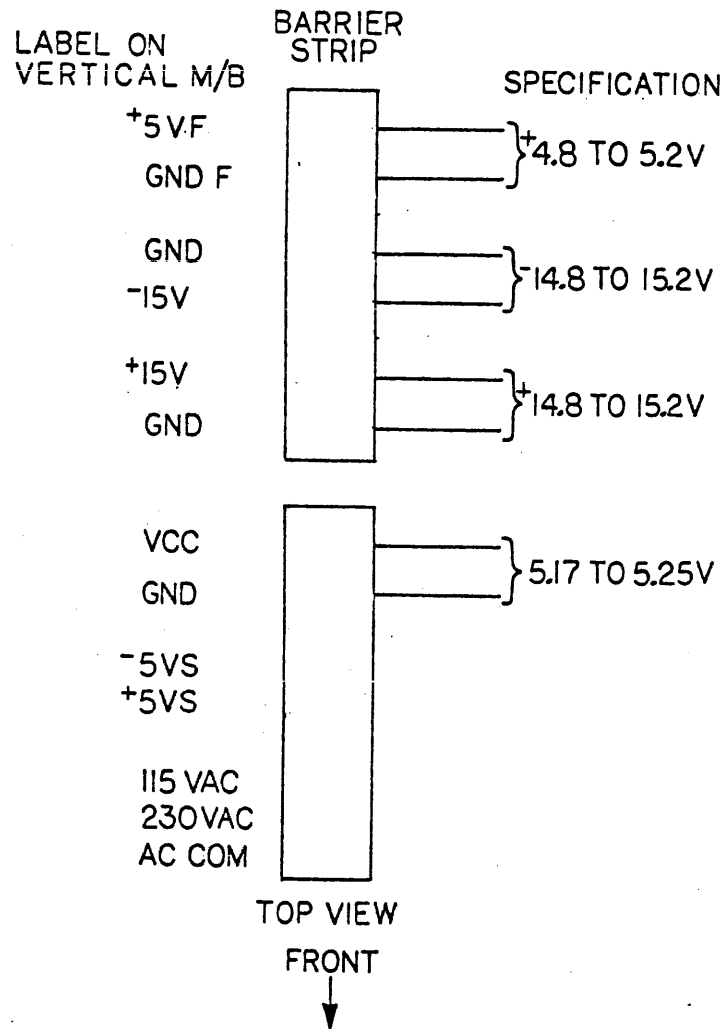

Fig. C-2-5-1 Barrier Strip Voltages on Power Supply
- 2) Check P.S. voltage levels-Fig.C-2-5-1 H